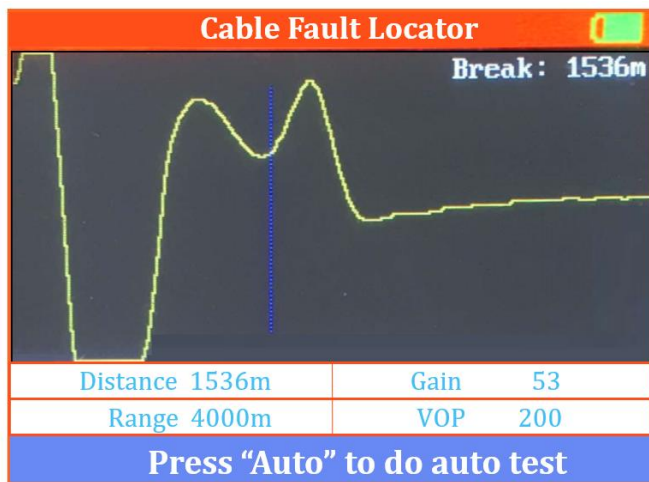

Figure 4.2 Auto test result
Connect the cores which are not being tested to earth and attach the black crocodile clip on the test lead to the earth and the red clip to the core which is being tested (Figure 4.2).
Figure 4.2 connections to the cable under test
Press the Auto button (⑧ Figure 4.1). The result of the test will be displayed on the instrument as shown in figure 4.2.